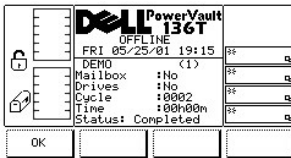

Figure 109. Service > Library > Exercise > Demo Using Cycles >Execution Dialog
- 1 If the button beneath the **OK** softkey is pressed, the field values are applied and the Demo operation is started. Refer to Figure 109.
- 1 If the button beneath the **OK** softkey is pressed, the field values are applied and the Demo operation is started. See Figure 109.
Once the cycles have run, the test displays the results. See Figure 109.